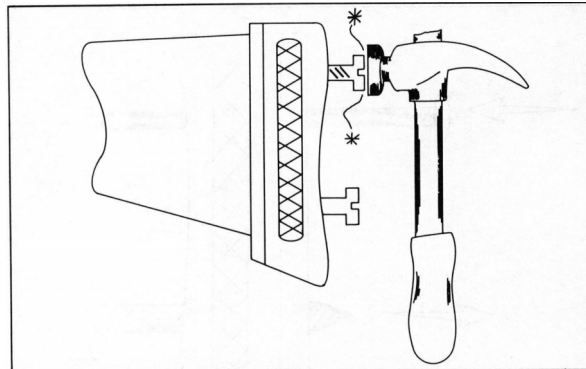

Fig. 6-17. Making locating dimples to mark screw holes in wood.
7. Reposition the pad on the stock and tap the screw heads with the hammer hard enough to mark the wood for drilling (Fig. 6-17).